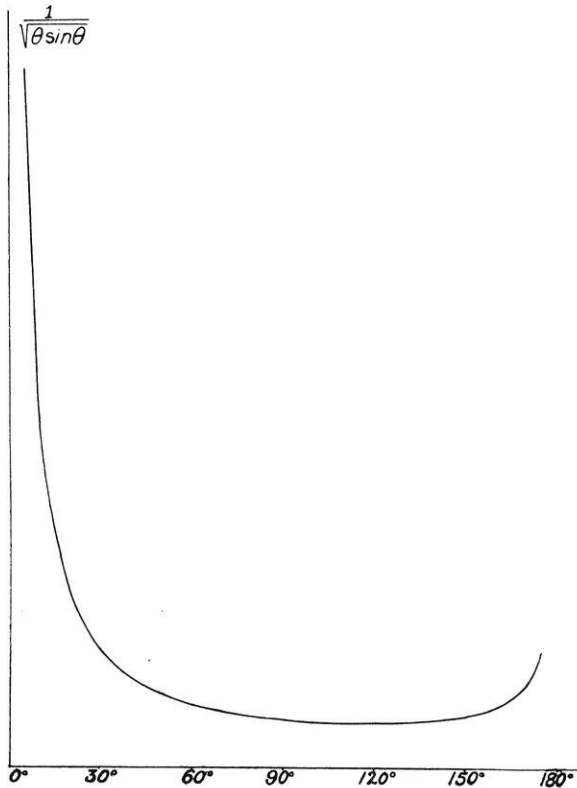

FIGURE 1.
Hence the amplitude of the field would change as  $\frac{1}{\sqrt{a \sin \theta}}$ . The first factor  $\frac{1}{\sqrt{a\theta}}$  shows a decrease of the amplitude which, however, is not very rapid. For example its value for  $\theta = 150^\circ$  is  $1/5$  of its value for  $\theta = 6^\circ$ . We conclude that the waves of wireless telegraphy, although they are not pure surface waves, are of the surface type. Besides the change of amplitude which corresponds to surface waves there is a decrease determined by the factor  $\frac{1}{\sqrt{a\theta}}$ . Formula (3) gives a minimum of intensity in the vicinity of  $\theta = 110^\circ$ . From this point on it gradually increases and becomes infinite at  $\theta = \pi$ . The existence of such a pole opposite to the sender is to be expected in the case of surface waves. Actually there would be no infinite concentration of energy in this pole just as there is none in the foci of geometrical optics. Our formula leaves this possibility open since the approximation formula for the spherical harmonic was used in deriving it, so that it is no more rigorously true at  $\theta = \pi$  than at the sender  $\theta = 0$ . The behavior of the intensity as a function of  $\theta$  is shown in Fig. 1.